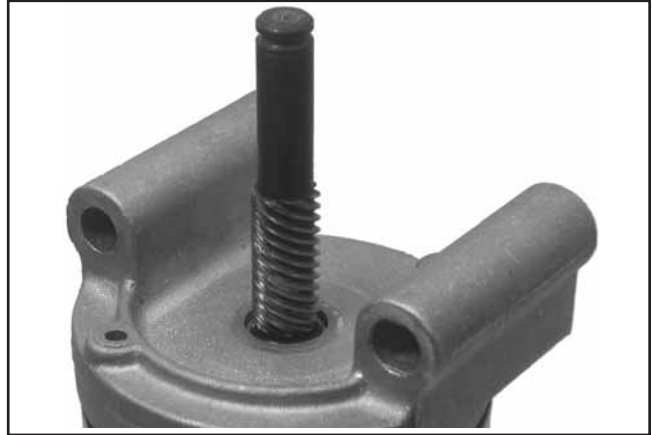

Figure 7-33. Splines on Armature Shaft.
7. The splines should have a light film of lubricant. See Figure 7-33. Lubricate as necessary with Kohler starter drive lubricant (Kohler Part No. **52 357 01-S**). Reinstall or replace the drive components, assembling them in the reverse order they were removed.